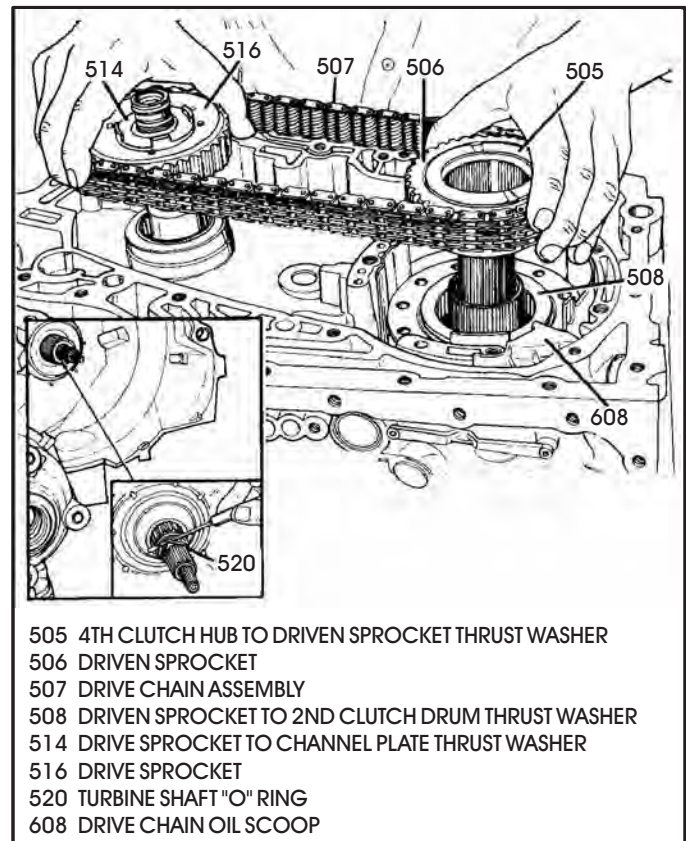

Figure 63
40. Ensure that the turbine shaft "O" ring has been removed, as shown in Figure 63.
41. Remove the drive and driven sprockets and the drive chain as an assembly, by lifting straight up evenly, as shown in Figure 63.